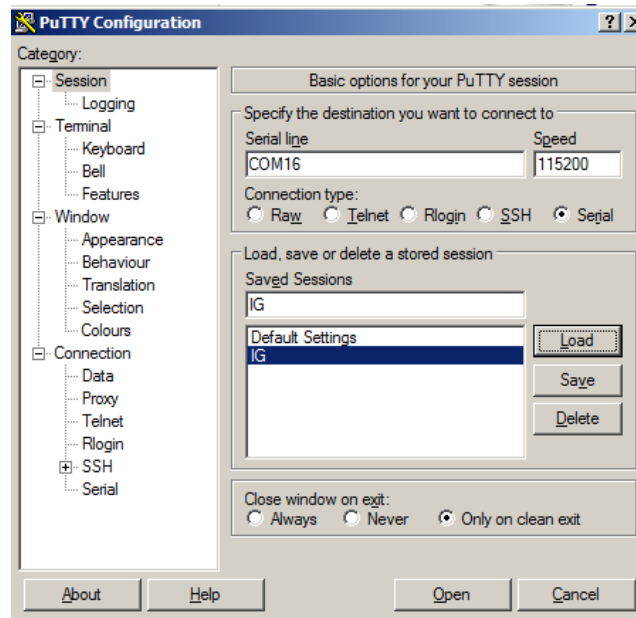

Fig. 2. Putty serial connection configuration.
- An example of the Putty configuration is shown in Fig. 2.